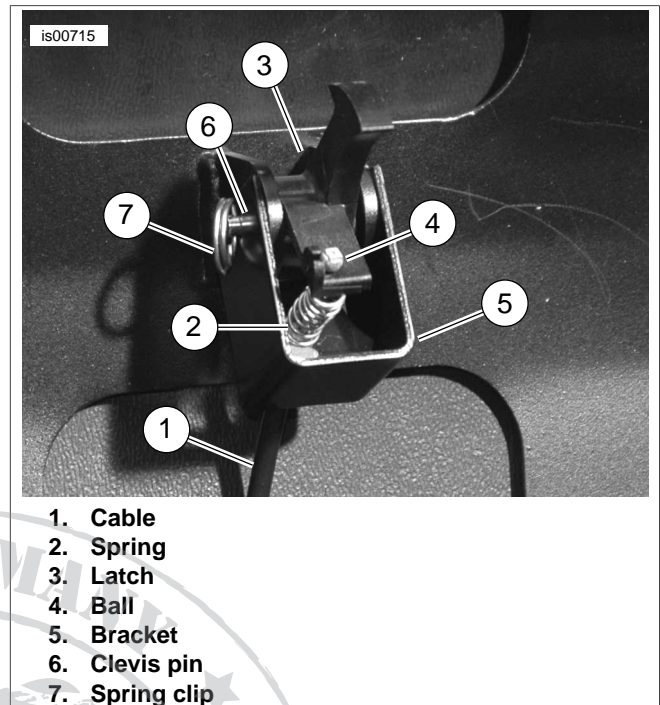
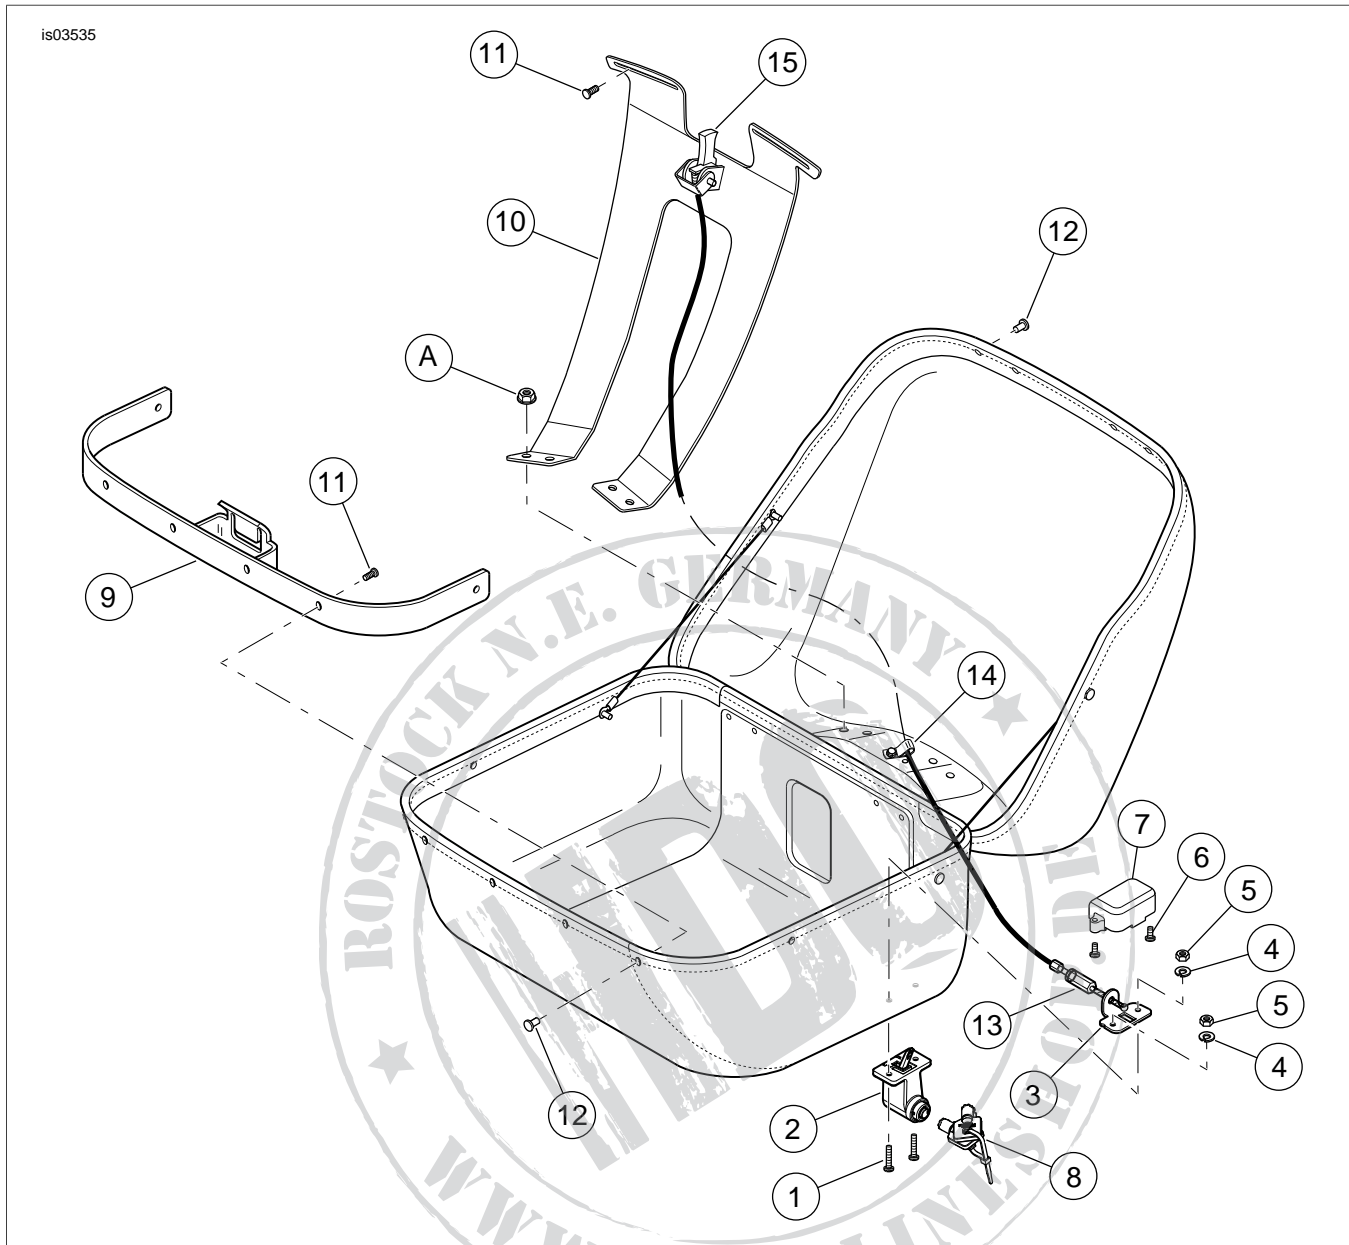

Figure 7. Install Latch and Spring Kit
Figure 9. Service Parts: Leather Tour-Pak Lock
See Figure 9 and Table 1.
1. See Figure 9. Position lock set template (16) in front-right corner on underside of Tour-Pak and tape it into place.
7. Insert two screws (1) through lock set mounting holes and into Tour-Pak.
8. Install lock set (2) and backing plate (3) using two lock-washers (4) and hex nuts (5) from kit.
9. Using a 3/16 in. (4.8 mm) hex wrench, remove two screws (6) and cover (7).
5. See Figure 9. Install cover (7) over lock set rod and cable end using two screws (6).
- See Figure 7. Insert free end of cable (1) through spring (2), and insert cable into slot in the latch (3) so ball on end of cable (4) holds it in place.
- Position latch inside tabs of Tour-Pak lid, and latch bracket (5) outside tabs, lining up holes. Insert clevis pin (6) through holes, and fasten with spring clip (7).
- See Figure 9. Insert key (8) into lock set (2), and turn to unlock if necessary. Press key inward and check latch for proper operation. Adjust cable assembly if necessary.